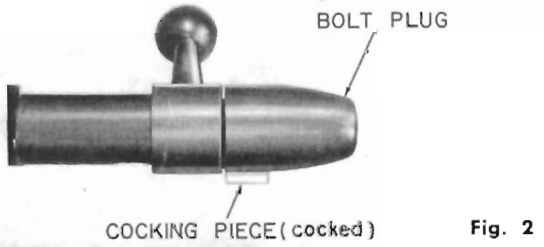

Fig. 2
**TO COCK BOLT** — Bolt must be cocked to put into rifle. Should bolt become uncocked, cocking piece (Fig. 2) will snap forward into cocking cam in rear of bolt. Slide cocking piece rearward (it is recommended that vise jaws or other suitable clamping be used) and rotate bolt plug clockwise or lift bolt handle until cocking piece will snap into detent on rear edge of bolt.